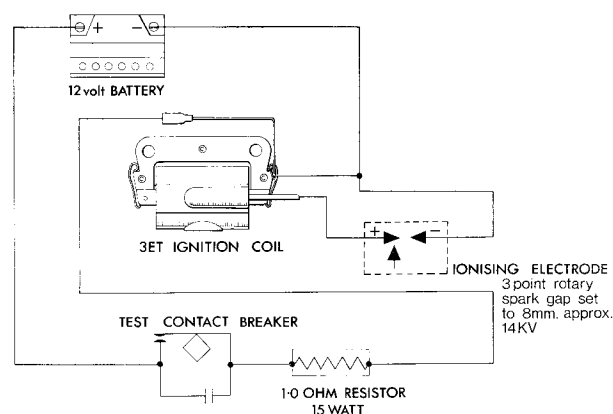

Fig. 74 Model 3 E.T. ignition coil bench test
- (a) Connect the 12-volt battery, contact-breaker and 1.0 ohm resistor in series with the primary winding of the ignition coil. Connect the negative side of the battery to the earthed end of the primary winding, as shown in Fig. 74.